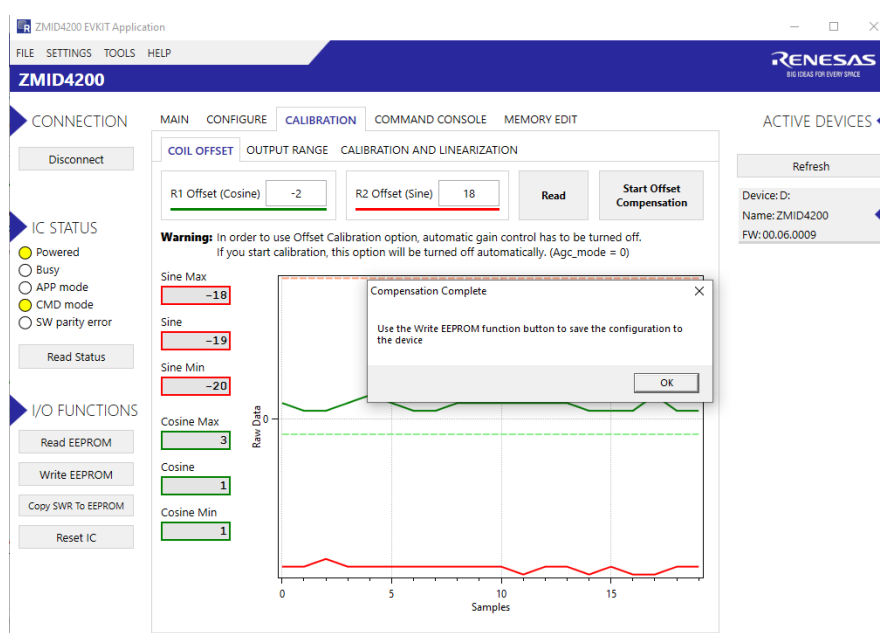

Figure 24. Coil Offset Calibration Completed – ZMID4200 Example
3. Values for the Offset will be updated (see Figure 24).